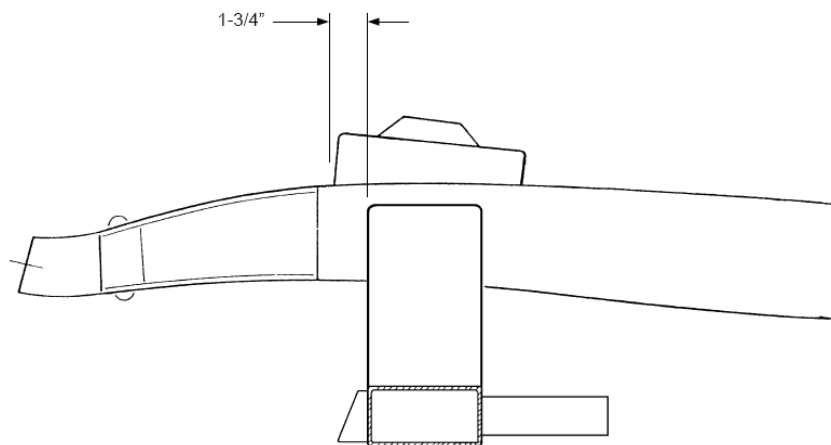

Figure 4- Spring Tower Install
7. Next are the spring towers. They sit on top of the frame rails, and are located as shown in **Figure 4**, (1-3/4" forward of the crossmember measuring from the front of the crossmember to the front of the spring tower). The higher side of the spring tower goes towards the front of the frame. Clamp in place, double check your dimensions, then weld all around, including the gusset flanges on the sides of the rails. For added strength, you can also weld the inside of the gusset flanges.